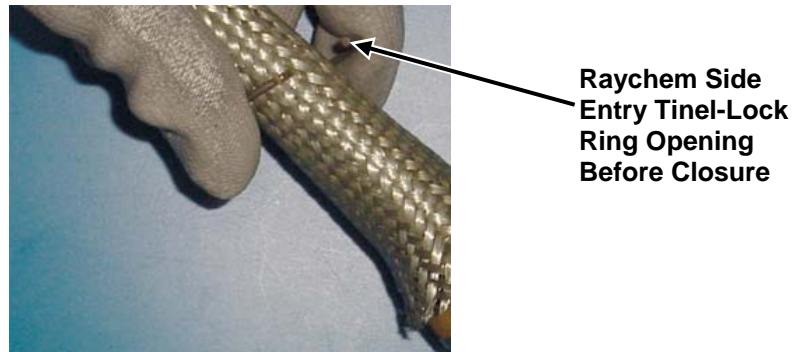

Figure 2. Pressing the Ring together on the Cable Braid
5. Position the braid on the backshell past the shoulder of the shield termination surface and ensure there is approximately 0.2 inches of full braided weave past the shoulder. See Figure 2.
6. Slide the Raychem side entry Tinel-Lock ring onto the cable braid in a position near the backshell. See Figure 2.
7. Press the Raychem side entry Tinel-Lock ring together until it snaps into place, using pliers, if necessary. See Figure 2.